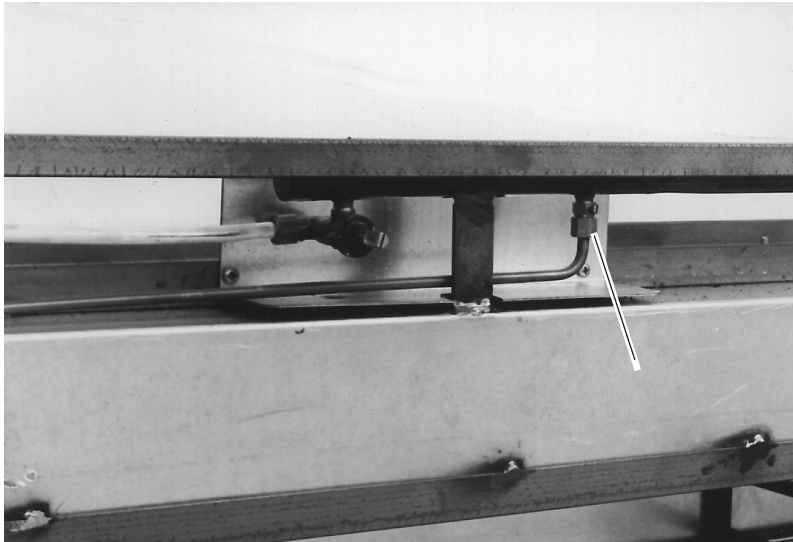

Fig. 6
2. Disconnect the compression nut from the pilot tube with $\frac{1}{2}$ " wrench. (Fig. 6)